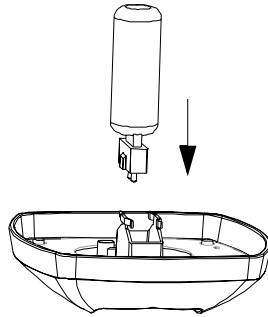

Figure 1.6. Installing the Lamp
3. Holding the lamp by its base, align the lamp leads to their female slots and carefully push the lamp into the socket. Refer to Figure 1.6.